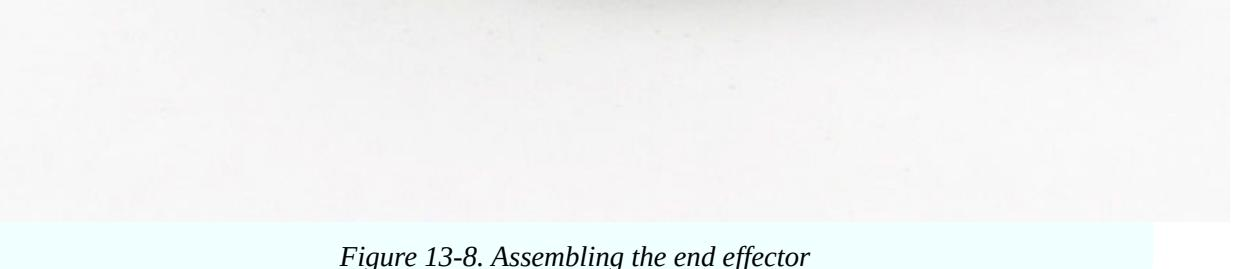

Figure 13-8. Assembling the end effector
5. Now pop your bolts through the outer holes and slip a latex sleeve over each of them, as shown in Figure 13-8. Make sure the tubes are snug against the base of the hardboard and then secure them with zip ties. Snip off the dangling ends using scissors.